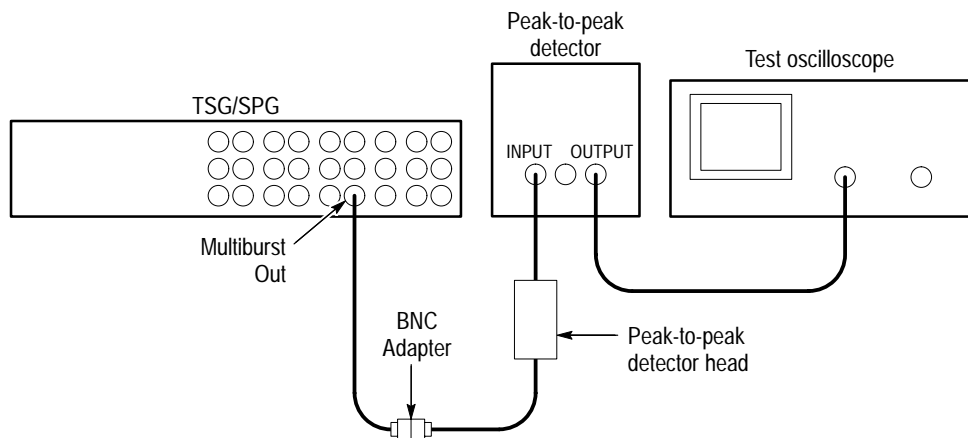

Figure 5–10: The initial frequency response setup
1. Use two 75 Ω coaxial cables connected together with a BNC female-to-female adapter to connect the TSG/SPG Multiburst Generator output to the Peak-to-Peak Detector Head Input. See Figure 5–10.